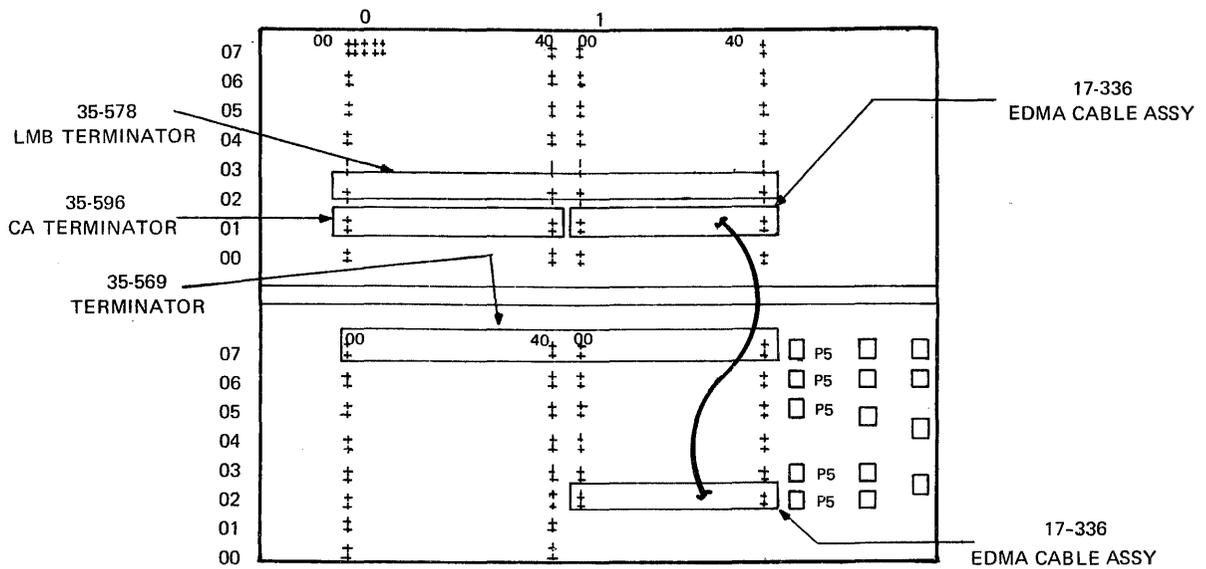

Figure 19. Basic Processor – Rear View
Figure 19 depicts the Basic Processor Chassis as viewed from the back plane. Shown here are the 35-578 Local Memory Bus (LMB) Terminator, the 35-596 Control Address (CA) Terminator, the 17-336 EDMA Cable Assembly, and the 35-569 Processor Terminator. Note that one end of the 17-336 Cable Assembly has a terminator card. This end of the cable must always be installed on upper Slot 1, Connector 1 side. The other end of 17-336 is shown connected to lower Slot 2, Connector 1 side but may also be connected to lower Slots 0 or 1.